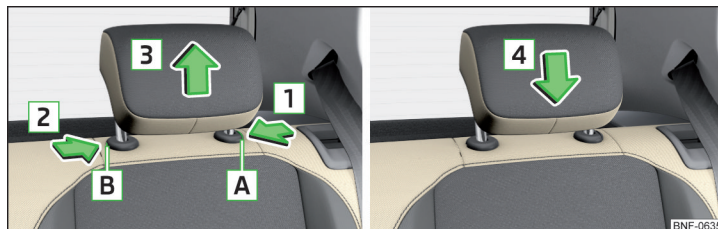

Fig. 56 Removing/inserting the rear headrests
- Hold down the securing button **A** in the direction of arrow **1**, at the same time insert the vehicle key in opening **B** in the direction of arrow **2** and remove the headrest in the direction of arrow **3** » Fig. 56.